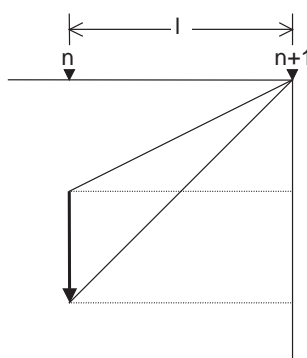

Fig. 2.3
(3) In feeding from division n+1 to n when the machine is in the negative direction from the reference position, as shown in Fig. 2.3,